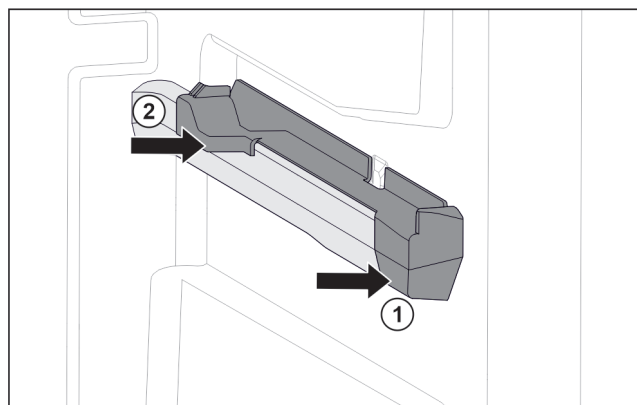

Fig. 218 Attachment on the right moulded rib
- Position attachment on moulded rib at the front. *Fig. 218 (1)*
- Press on attachment at the back. *Fig. 218 (2)*